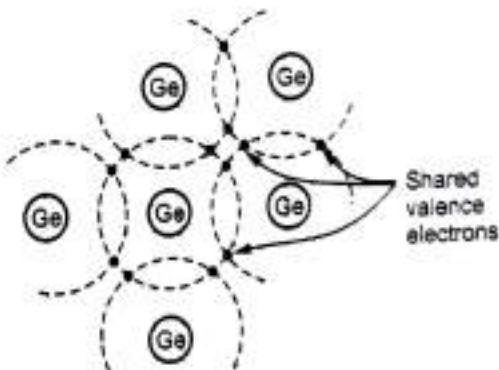

Fig. Q.10.1 Crystalline structure of germanium
- Such atoms have a crystalline structure in which 4 electrons of one atom share the 4 electrons of an adjacent atom, forming covalent bonds. This is shown in the Fig. Q.10.1.